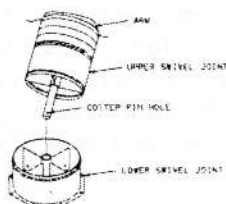

FIG. 1
2. Mount the hose assembly to the unit. Insert the shaft into the lower swivel joint. The flexible hose must be pulled back. Insert the cotter pin (supplied) by reaching through both swivel joints to the underside of the lower swivel joint (fig. 1).